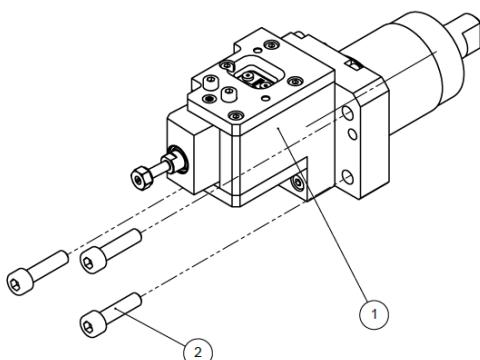
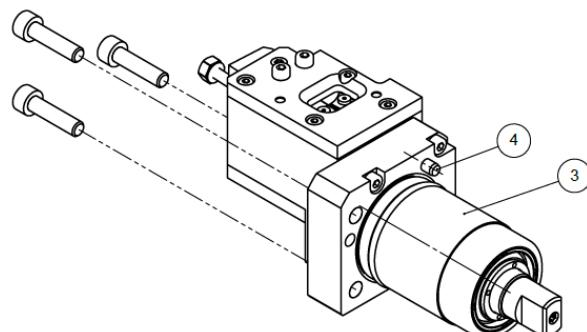

Figure 1
Figure 2
To fix the tool holder (fig. 1, pos. 1), center the shank (fig. 2, pos. 3) in the T11 position of the machine (fig. 3). Position it with the pin (fig. 2, pos. 4). Tighten the 3 M5 screws (fig. 1, pos. 2).